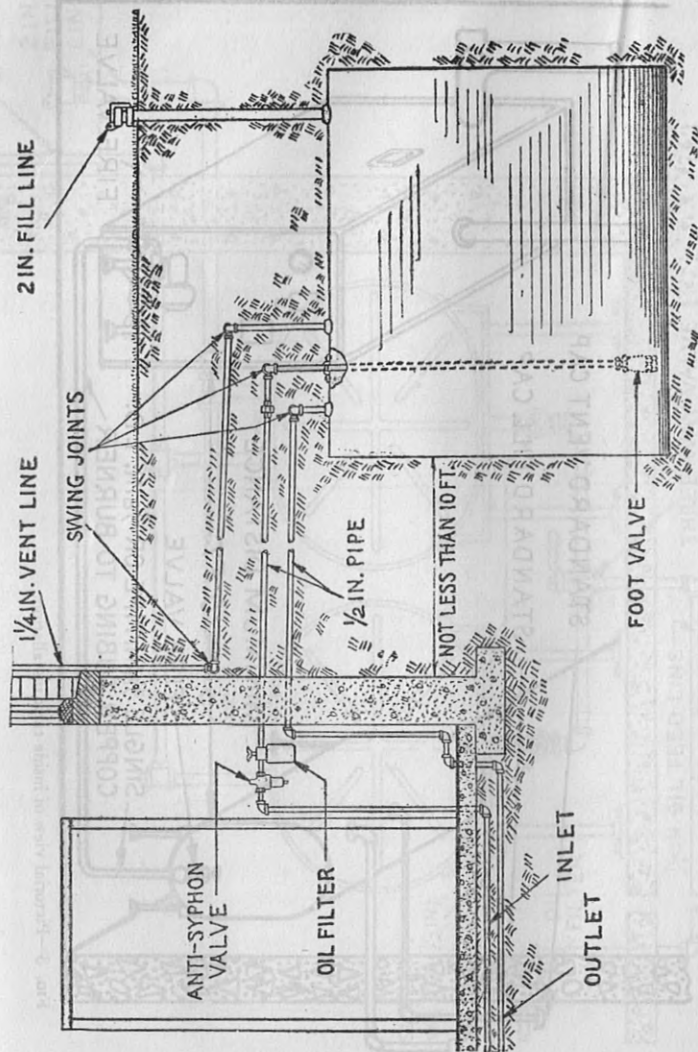

Fig. 4—Piping diagram for outside underground fuel oil storage tank.
**Ans.** They should consist of swing joints, as shown in fig. 4 to permit flexibility to avoid strain that might otherwise be brought about due to settling of the tank or piping.